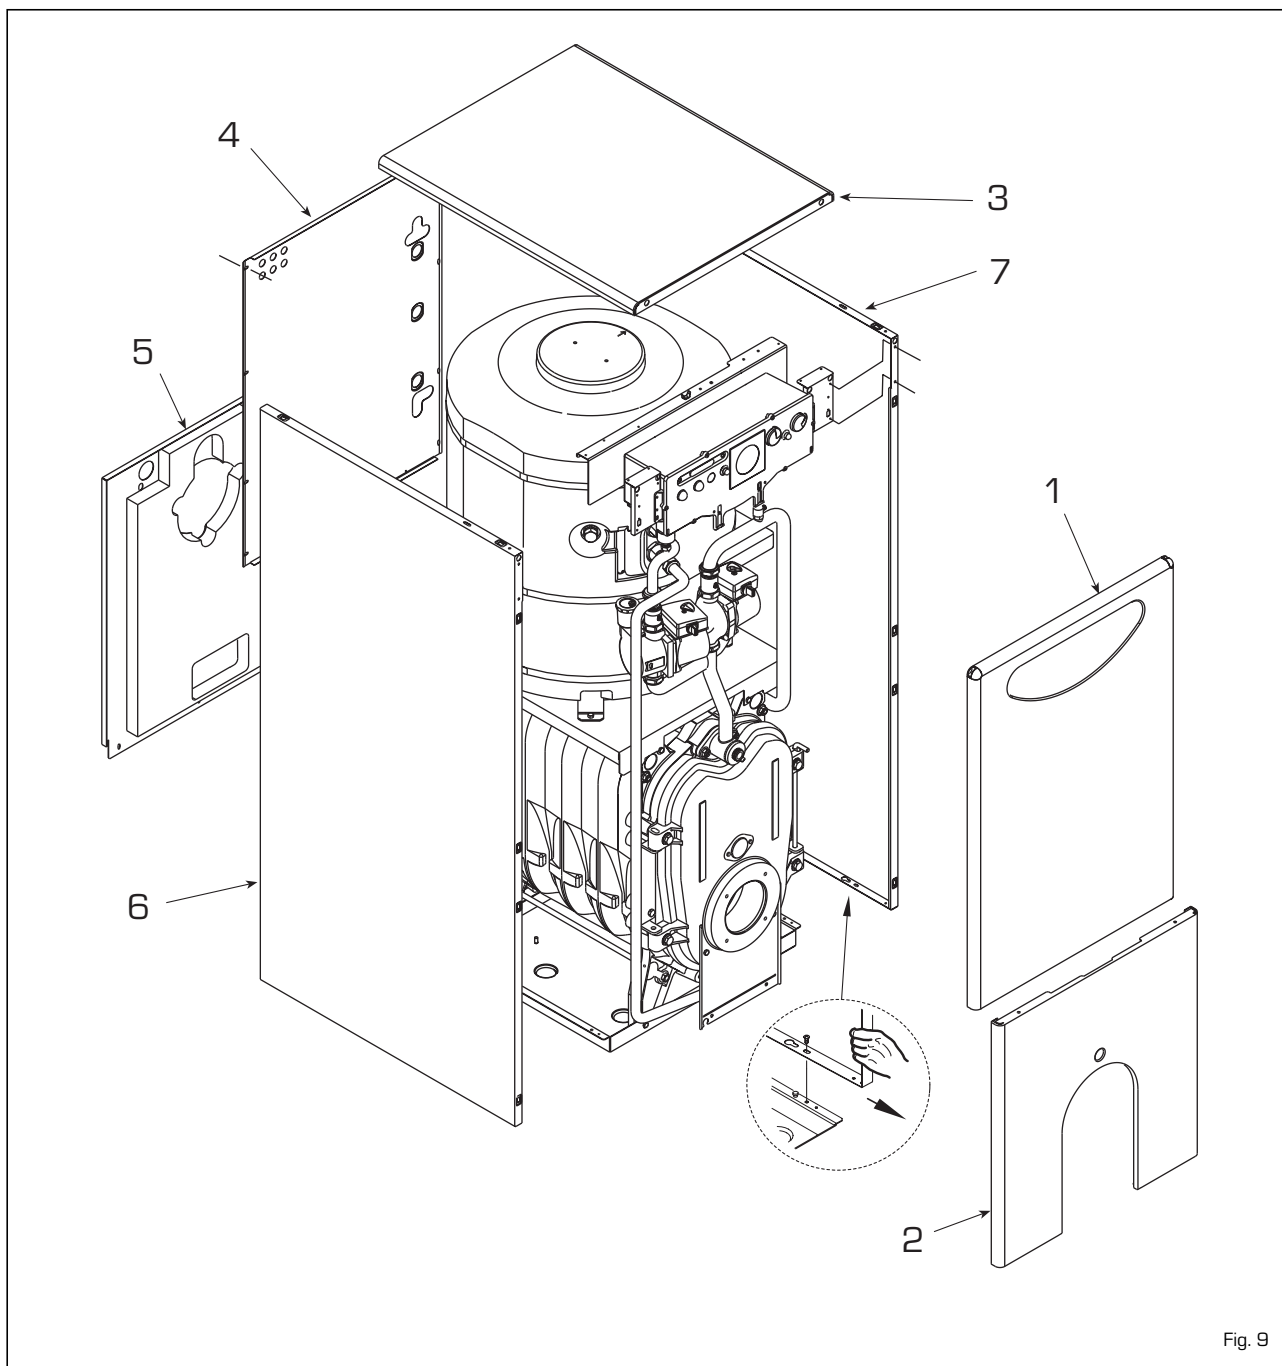

Fig. 9
3.3.3 Dismantling the skirt (fig. 9)
The shell can be completely disassembled for an easy maintenance of the boiler by following the numeric steps shown in fig. 9.